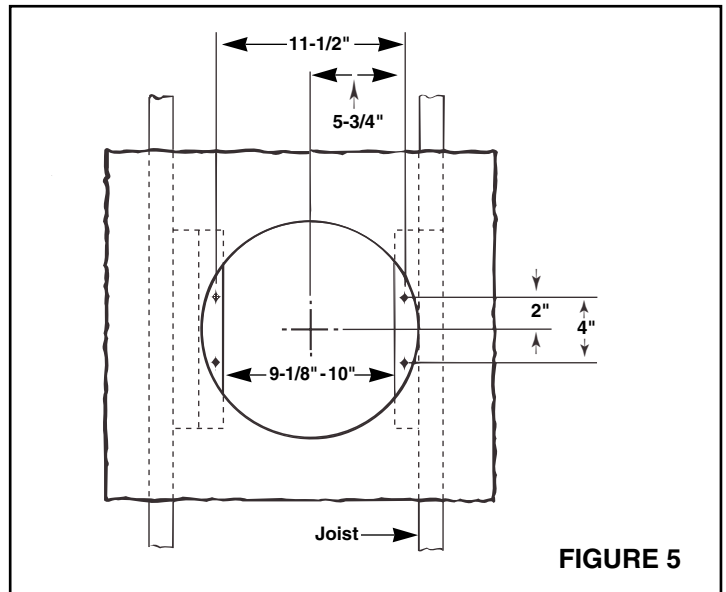

FIGURE 5
7. Refer to Figure 5. Install 2 x 4 cleats to both ceiling joists. In some cases it may be necessary to use more than a single cleat on one side. The distance between cleats must be at least 9 1/8" but not more than 10".